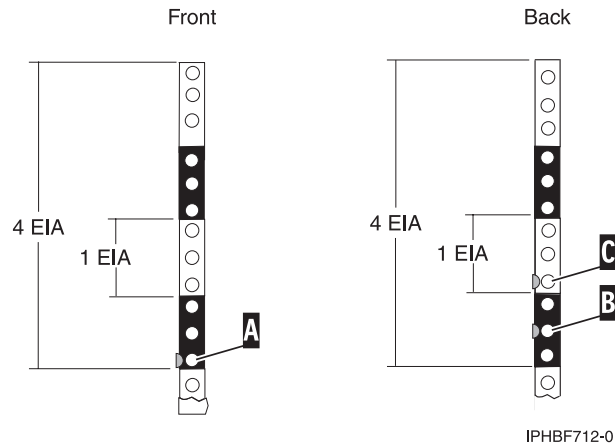

Figure 4. Marking holes on the front and back of the rack frame.
2. Facing the front of the rack and working from the right side, place a self-adhesive dot next to the bottom hole of the bottom EIA unit of the four you will be using for this system unit **A** in Figure 4 on page 11.
5. Place a self-adhesive dot at the middle hole of the bottom EIA unit, **B** in Figure 4.
6. Place a self-adhesive dot at the bottom hole of the next (higher) EIA unit, **C** in Figure 4.